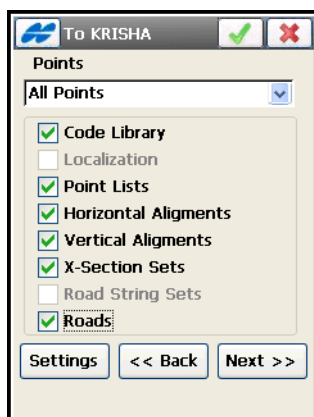

Figure 5-20. Export to Job
2. In the **To <Job>** screen select whether points are to be exported, and if necessary, filter the exported points either by type, by range and code, or by type, range, and code (Figure 5-20 on page 5-16). Also, place appropriate check marks, if the following data should be exported along with points: Code Library, Localization, Point Lists, Horizontal Alignment, Vertical Alignment, X-Section Sets or Roads.